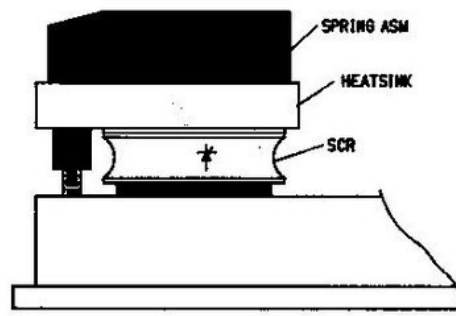

Figure 5.5.1
3. With the anode down, place the upper heat sink on top with the clamp in position. (See Figure 5.5.1.)